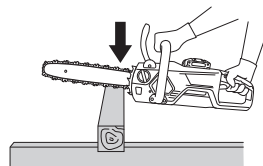

Fig. 21
- (1) Switch ON the power while keeping the saw slightly away from the wood to be cut. Start sawing only after the unit has reached full speed.
- (2) When sawing a slender piece of wood, press the base section of the guide bar against the wood and saw downward as shown in **Fig. 21**.